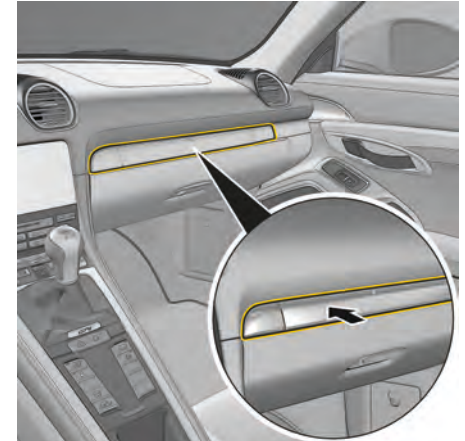

Fig. 156: Cup holders
1. Press on the panel (Fig. 156).